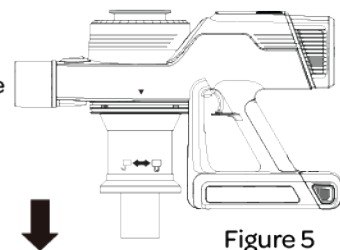

Figure 5
3. Turn the Dust Bin Assembly to the left, aligning the top arrow on the Main Body with the arrow on the right of the Dust Bin Assembly, to release. (Figure 5)
4. Pull the Dust Bin Assembly away in a down and away from the Main Body. (Figure 5)